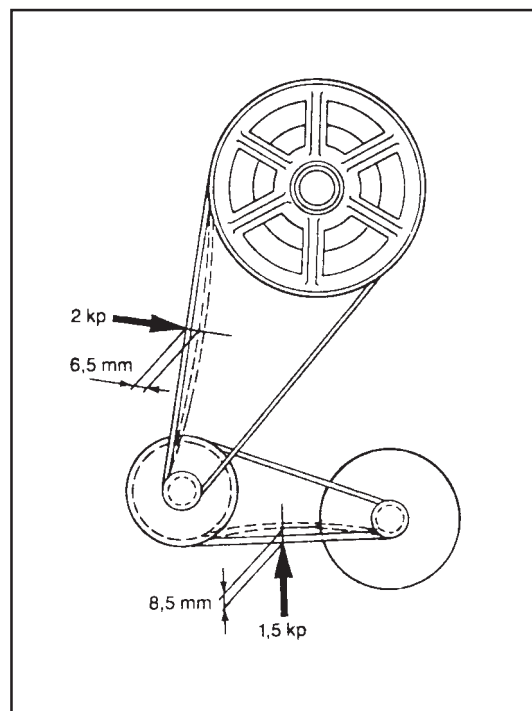

Figure 6. Tensioning the belts
- Loosen the turnbuckle screw of the tensioner and turn the turnbuckle screw until correct belt tension according to figure 6 has been obtained.
1. Loosen the turnbuckle screw for the belt tensioner on the belt connection between the laundry motor and the belt transmission (Figure 6).
1. Loosen the turnbuckle screw of the belt tensioner for the belt connection between the wash motor and the belt transmission (Figure 6).